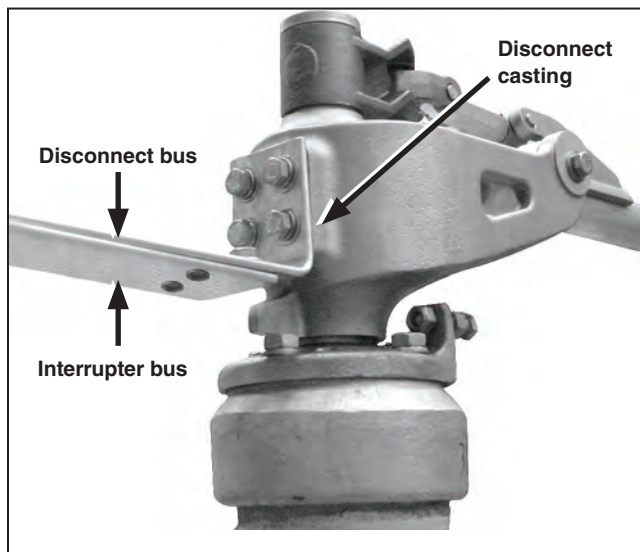

Figure 23. Attach the disconnect bus to the tapped holes in the disconnect casting. Overlap the interrupter bus.
- (d) Attach the disconnect bus to the set of tapped holes in the disconnect casting using the coated cap screws and four $\frac{1}{2}$ -inch stainless steel Belleville washers furnished. See Figure 23. Tighten the screws to a torque of 40 to 50 ft.-lbs.